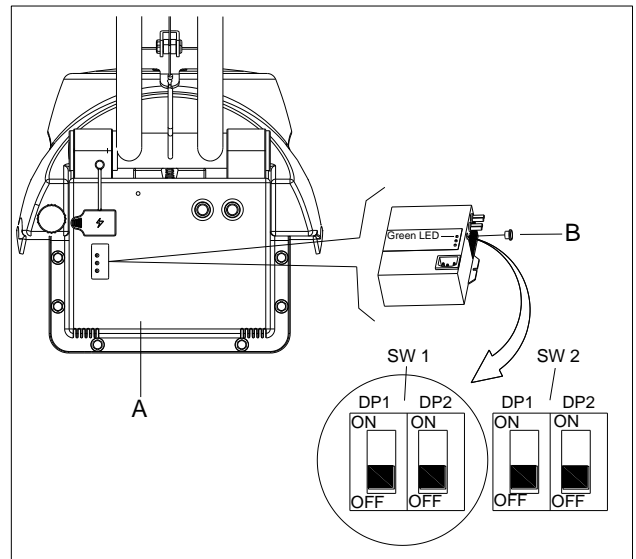

Figure 4
1. Turn off the machine and disassemble the cover (A as Figure 4) from the machine. Then remove the round black cap located on the front side of the charger (B as Figure 4). you will find the 2 sets of dipswitches (SW1 and SW2) in the charger.